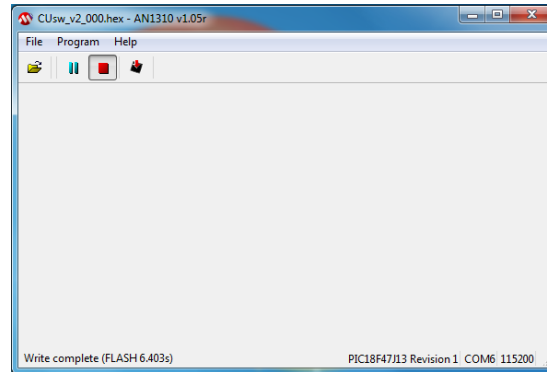

Figure 14. Successful update process
10. Press button with downwards red arrow symbol in the main program to update firmware. Verify that "Write Complete" is displayed to confirm successful updating (Figure 14).